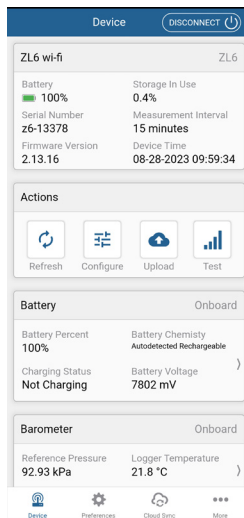

Figure 23 ZENTRA Utility Mobile main screen
- **Send Feedback to METER:** Sends product feedback, bug reports, or feature requests to METER when connected to the internet (Figure 23).